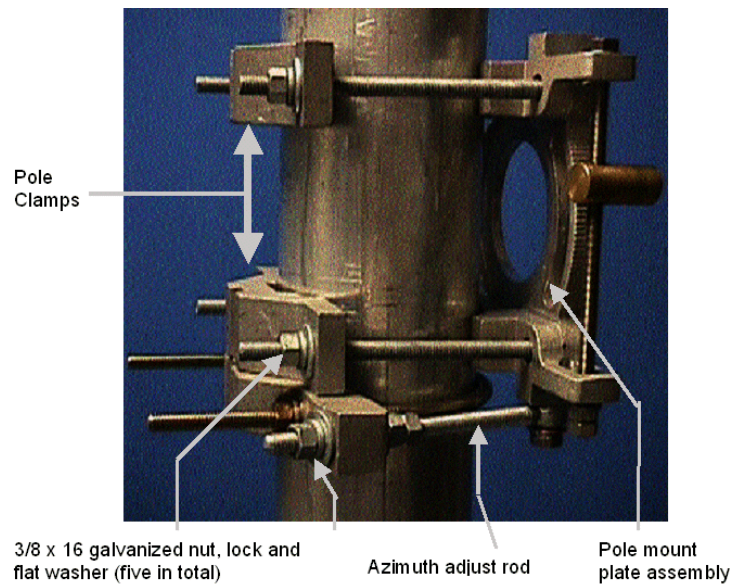

Figure 9-5: Pole Mounting Plate
1. Referring to Figure 9-5, position the pole mount plate assembly against the pole directly opposite the azimuth adjustment plate.